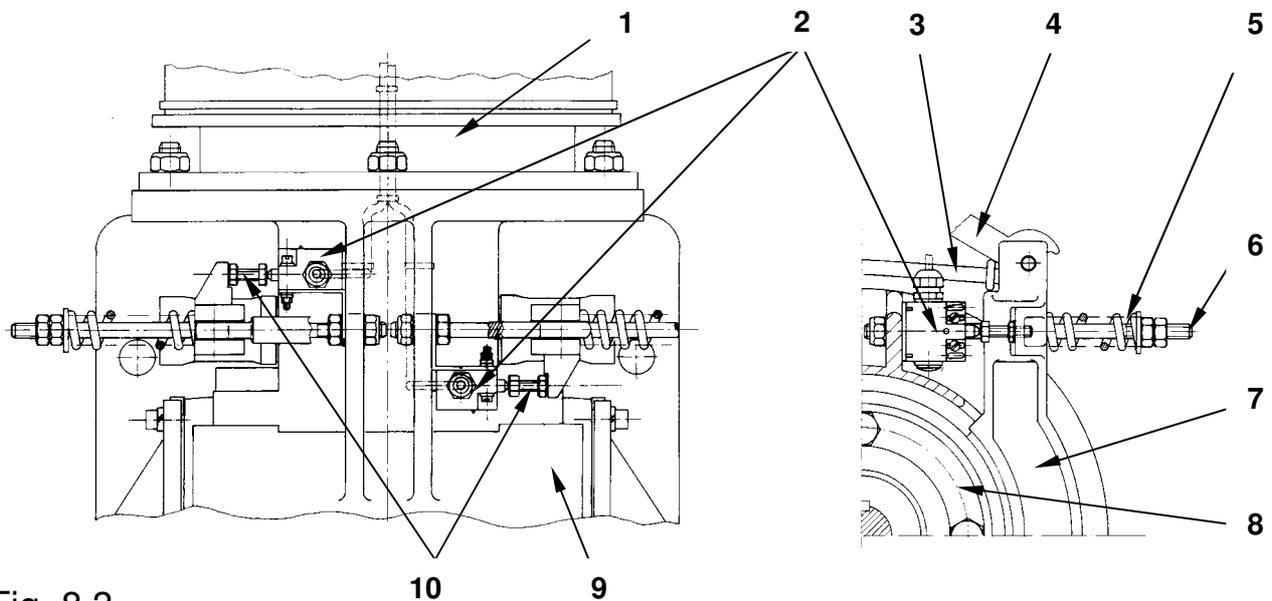

Fig. 8.3
2. In the case of gear drives of the W row (W191, W263, W332) Secure the sensors with angle brackets on the pressure rod for the brake springs, see Fig. 8.3
- Unscrew the rear bearing cover (Fig. 8.3, Item 1) on the gear drive and disc (Item 2) on the end of the worm gear shaft.
⇒ see illustration in Fig. 8.3